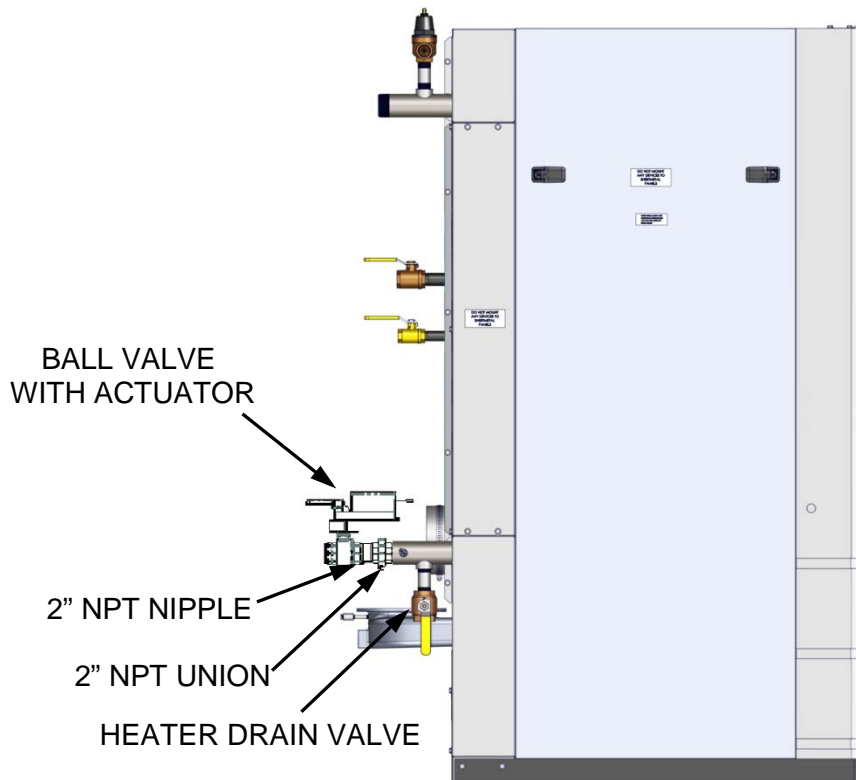

Figure 2-3b. Innovation Water Heater Equipped With Sequencing Valve
If the Innovation Water Heater was ordered for use with the C-More Water Heater Management (WHM) system and the actuator-controlled ball valve is not already installed on the unit (Figure 2-3b), it will be packed separately within the shipping container. If installation is required, proceed as follows:
3. Ensure that the valve is positioned with the actuator enclosure position as shown in Figure 2-3b, below.